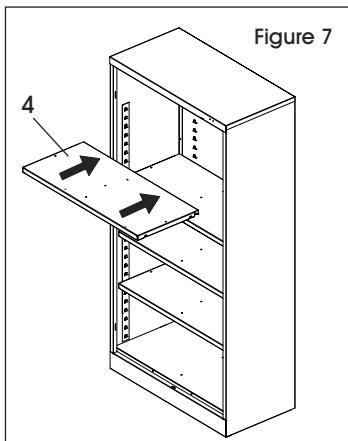

Figure 7
8. Insert the shelves (4) at your desired levels. (See Figure 7)